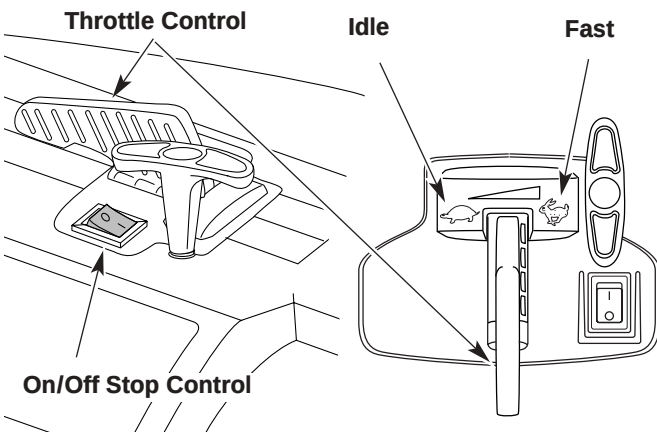
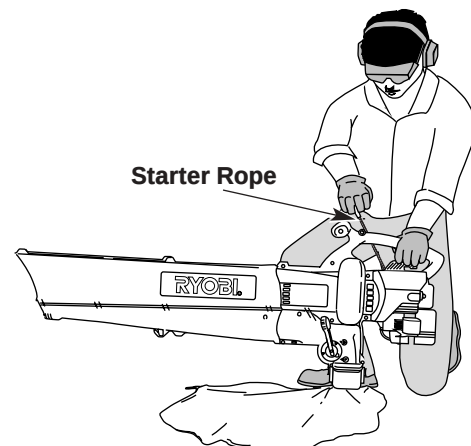

Fig. 9
Fig. 11
NOTE: The On/Off Stop control is a momentary switch and is always in the **ON (I)** position (Fig. 9).
5. With the unit on the ground (Fig. 11), move the throttle control to the fast position (↗) (Fig. 9).
6. Pull starter rope briskly (Fig. 11). Continue pulling until the engine sounds as though it wants to run (normally 2 to 5 pulls).
8. Pull starter rope briskly 1 to 3 times to start the engine (Fig. 11).
NOTE: If the engine floods while trying to start, place the choke control in the **RUN (C | +)** position. Move the throttle control to the fast position () (Fig 9). Pull the starter rope briskly. The engine should start with three (3) to eight (8) pulls.
1. Move the throttle control to the idle position () (Fig. 9). Allow the engine to cool down by idling for 10-15 seconds.
2. Press and hold the On/Off Stop control down in the **STOP (O)** position until the engine comes to a complete stop (Fig. 9).
1. Press and hold the On/Off Stop control down in the **STOP (O)** position until the engine comes to a complete stop (Fig. 9).